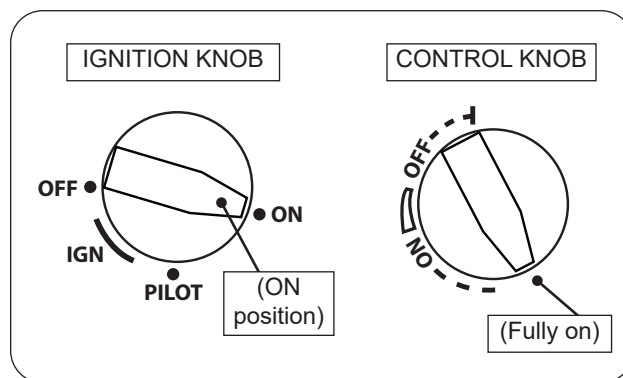

Fig. 42-1 Manual lighting
1. Ensure the pilot is burning. Turn the ignition knob counterclockwise ↺ to **ON** (see Fig. 42-1).
2. Turn the control knob counterclockwise ↺ to the fully ON position to ignite the burner (see Fig. 42-1).